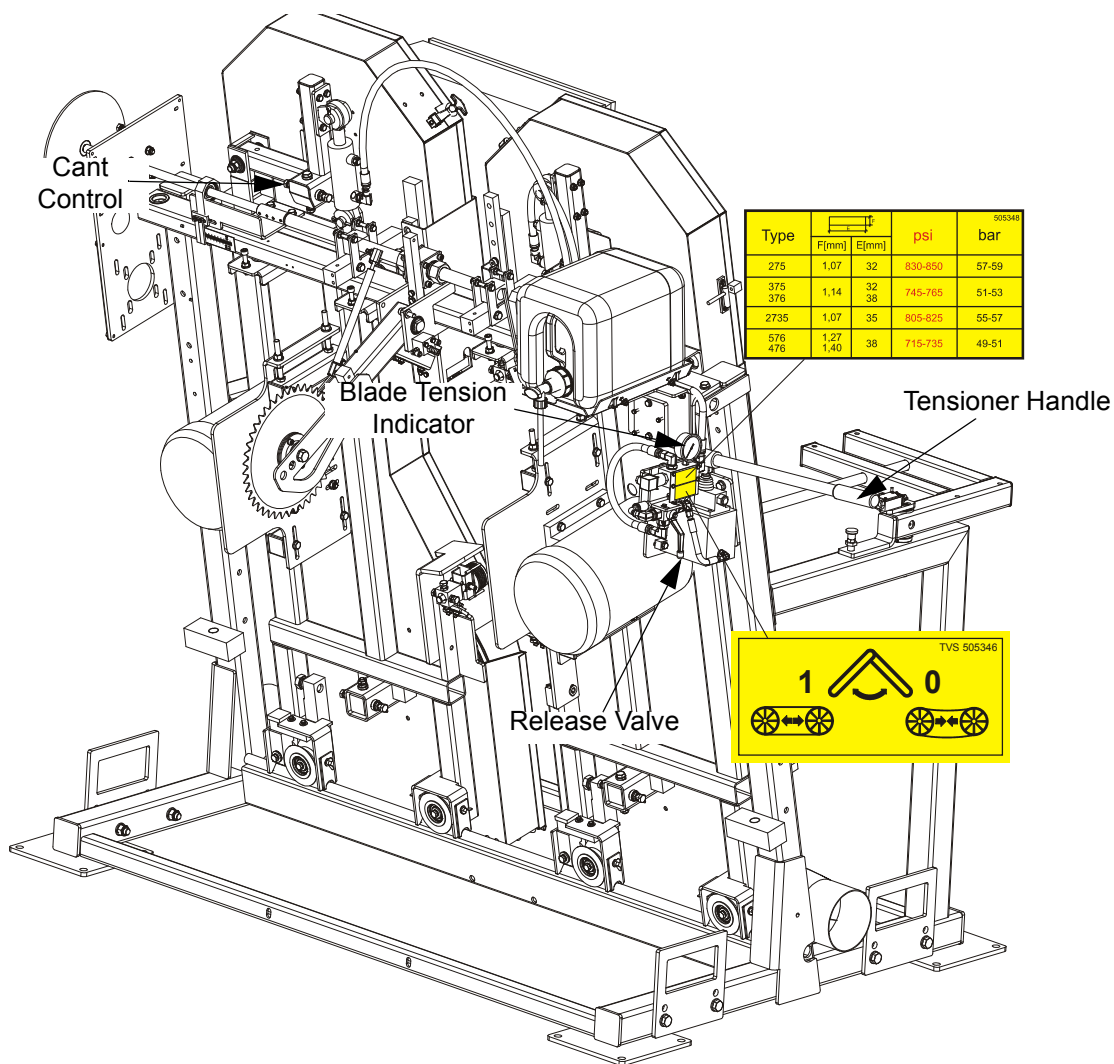

FIG. 2-3
See **Figure 2-3**. Place the provided handle in the blade tensioner socket and secure with a screw. Set the tensioner valve to position “1”. Move the tensioner handle up and down to tension the blade. Depends on the installed blade type, tension the blade to the value shown on the decal located below blade tension valve. Values “F” and “E” are: blade thickness and blade width. Check the blade tension occasionally when adjusting the cant control or while cutting and adjust if necessary. As the blade and belts heat up and stretch, the blade tension will change. Also, ambient temperature changes can cause tension to change. To release the blade tension set the tensioner valve to “0”
5. Use the cant adjustment bolt, shown in **Figure 2-3**, to adjust where the blade travels on the blade wheels.